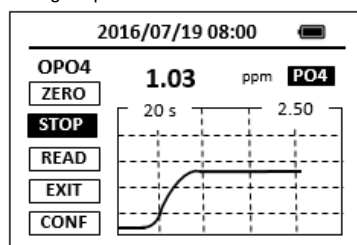

Figure 14. Concentration as a Function of Time
3. Place sample vial back into the sample vial compartment and press the timer button **TMR1**. The SP-910 will start to monitor the reaction between the reagent and the species you want to measure in the water sample. The concentration is shown in the chart as a function of time (Figure 14).
In order to show the concentration-time curve as shown in Figure 14 during the last timing step, The SP-910 must be zeroed using the prepared blank before the last timing step. Thus, the last timer button will not be selectable until the SP-910 has been zeroed using the prepared blank. Multi-timing step Hach® methods require zeroing the colorimeter using the prepared blank after the last timing step is completed. The SP-910 can optionally be re-zeroed using the prepared blank after the last timing step. The blank
3. Place the prepared sample into the SP-910 sample vial compartment and press the **TMR2** button to start the second timer. The SP-910 will display the measured concentration as a function of time as shown in Figure 14.